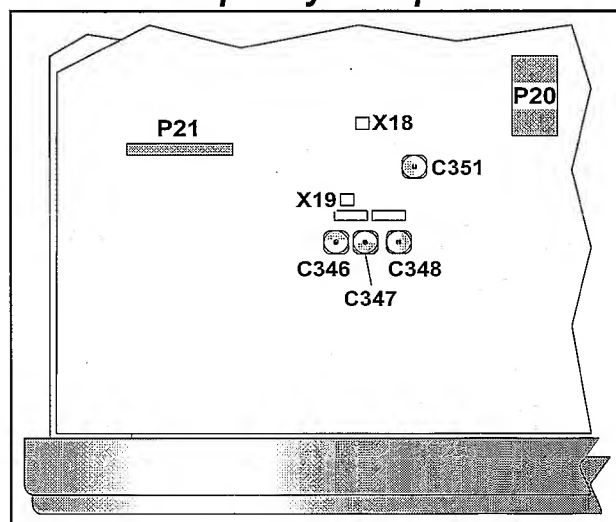

Figure 6-4 Trimmers for the 100 MHz Frequency Multiplier.
- Connect the Sampling Oscilloscope via a probe to the test point X19. See Figure 6-4.